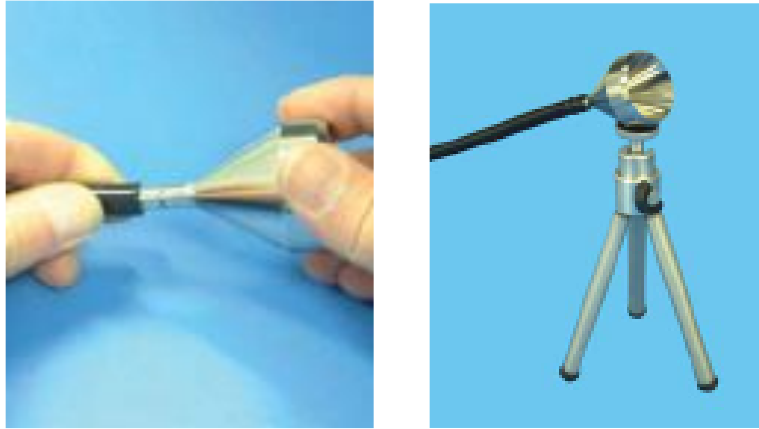

Figure 3-9 Tubing, Isokinetic Probe and Tripod
1. Insert the isokinetic probe's barb connector into one end of the tubing. If the tripod will be used, screw the probe onto the tripod's head and use the lock wheel to lock the probe in position. The head of the tripod swivels and can be locked in any position. See Figure 3-9.